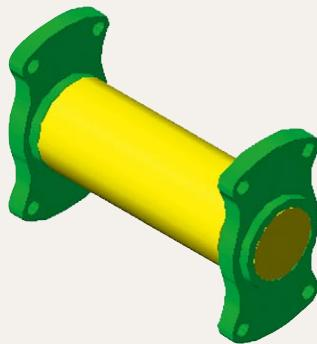
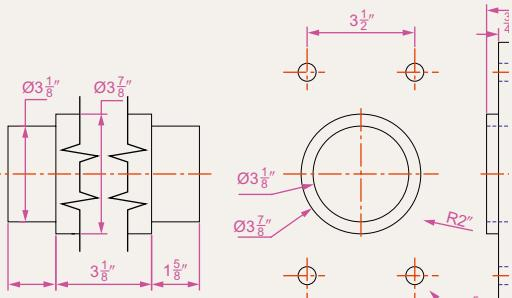

Fig. 10.27 Exercise 2 – a rendering of the holders and roller
Fig. 10.28 Exercise 2 – details of the parts of the holders and roller
- Fig. 10.27 is a rendering of a roller between two end holders. Fig. 10.28 gives details of the end holders and the roller in orthographic projections.